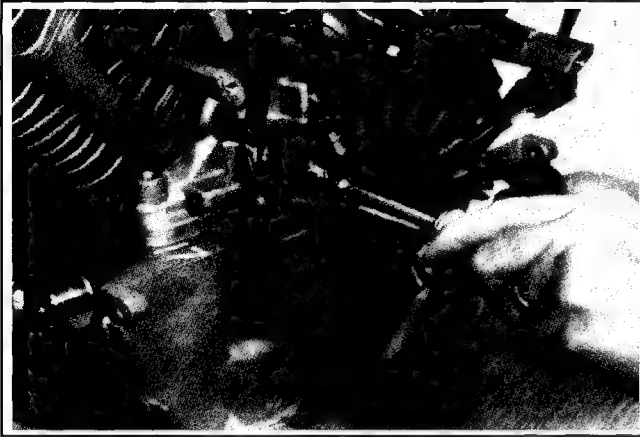

Figure 9-20. Removing Stator.
2. Remove the two hex. flange screws securing stator to crankcase. See Figure 9-20.